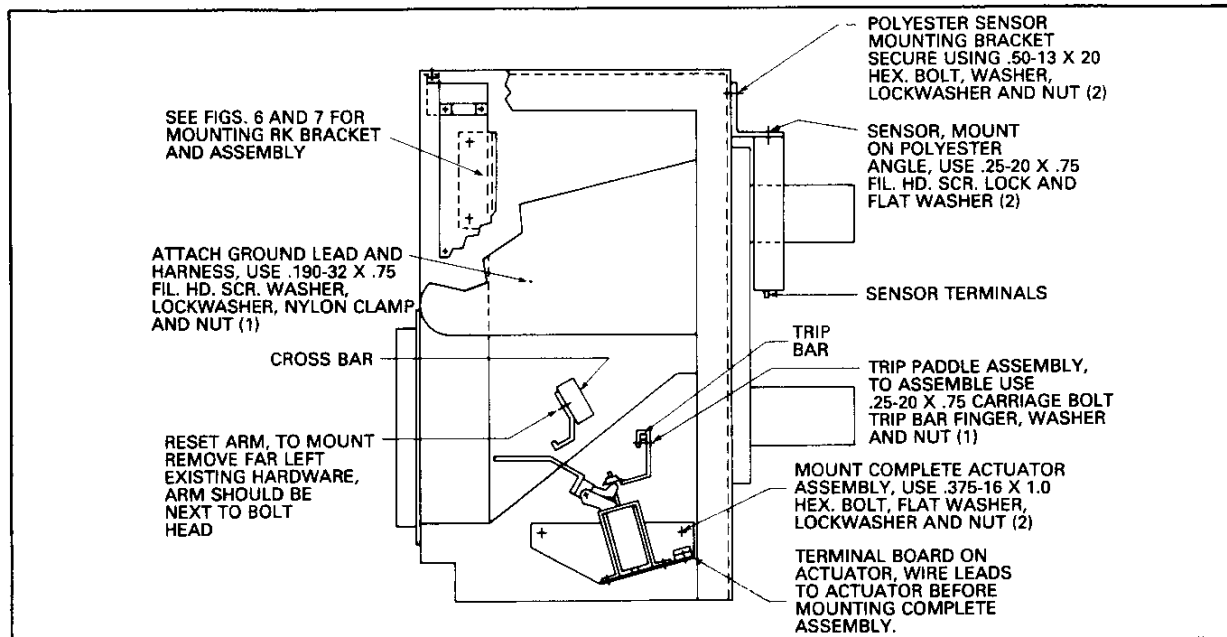

Fig. 9 Left Inside View of Breaker Looking Through from Right Side
- Directly downward about five (5) inches from the retainer bar and to the right you will locate a $\frac{3}{16}$ " hole on the side frame. Attach both the ground lead and the harness at this point using .190-32 x .75 fil. head screw, nylon clamp, washer and nut. This now grounds the sensor start point. Fig. 9.
- Mount the sensors on the polyester angle. See Fig. 9. Use .25-20 x .75 fil. head screw, lock and flat washers and nut.
- Viewing the breaker from the left side, position and assemble trip paddle on breaker trip bar using .25-20 x .75 carriage bolt, trip bar finger, washer and nut. **DO NOT** tighten this assembly. See Figs. 9 and 10.